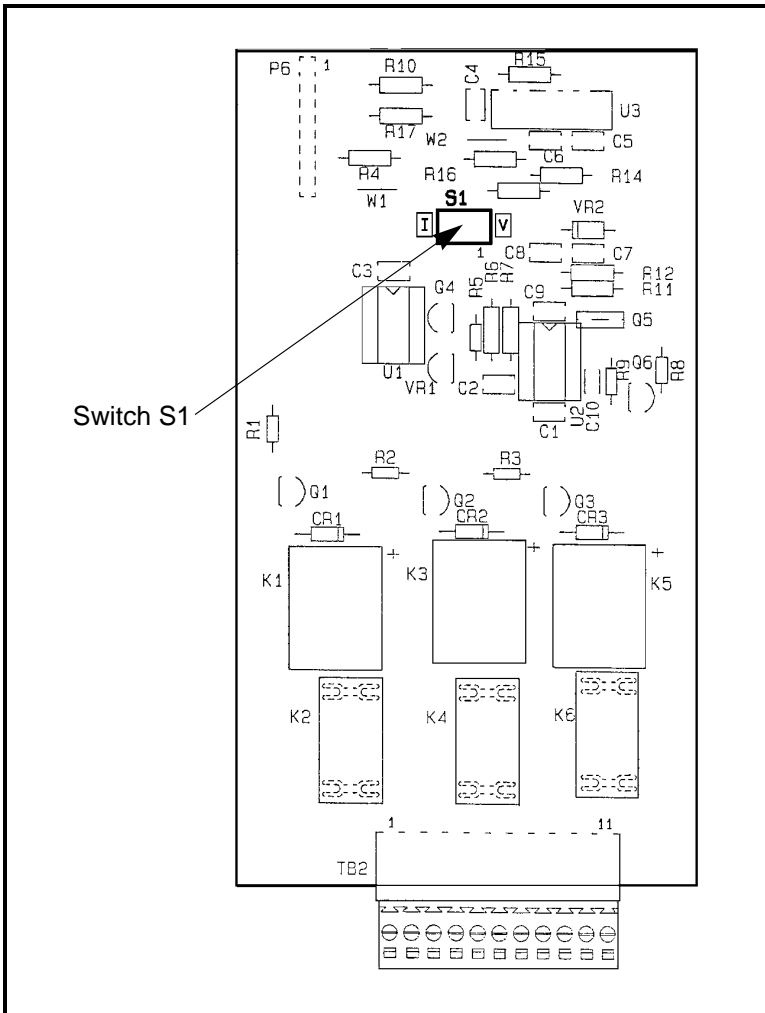

Figure 2-7: S1 Location on 703-1175 Output Board
The Series 35 has one recorder output, which is isolated. This output provides either a current or voltage signal, which is set using switch S1 on the output circuit board (see Figure 2-7 on page 2-19 for the location of S1).
3. Locate switch S1 on the output circuit board (see Figure 2-7 on page 2-19).